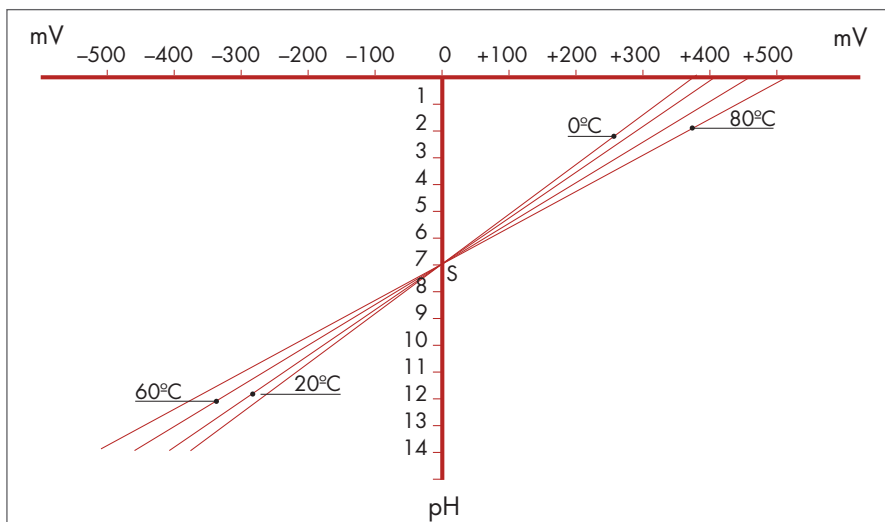

Fig. 2.6 Temperature effect on the mV/pH ratio.
The temperature effects obtained by immersing the electrodes in different standard solutions and then by varying the temperature of these standard solutions, are shown in the graphs of fig. 2.6.
- the intersection point is dependent on the pH of the buffer solution used in the glass electrode (this is usually pH 7). It is important that the isothermal lines intersect at only one point. So selection of the correct buffer solution is essential in order to obtain an accurate isothermal point of intersection S, shown in figure 2.6.